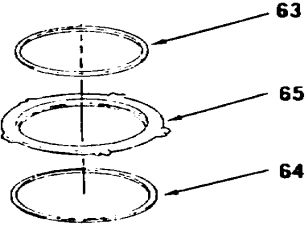

Figure 14-57.
- 23. Install rings (64 and 63) in piston (65, Figure 14-57).